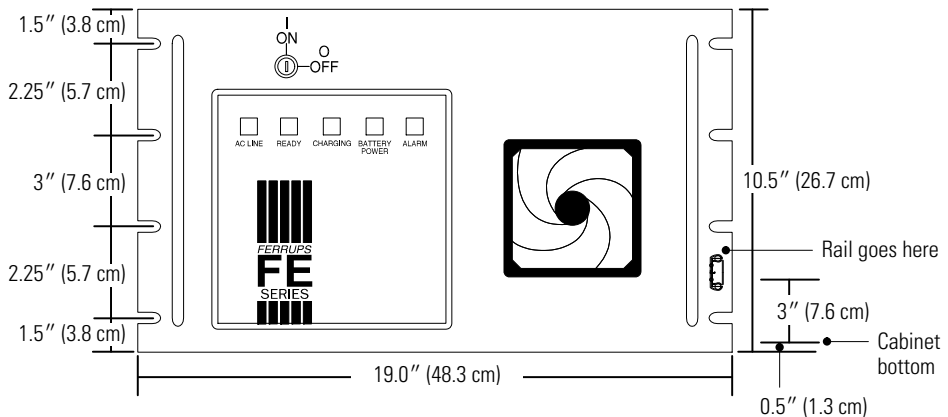
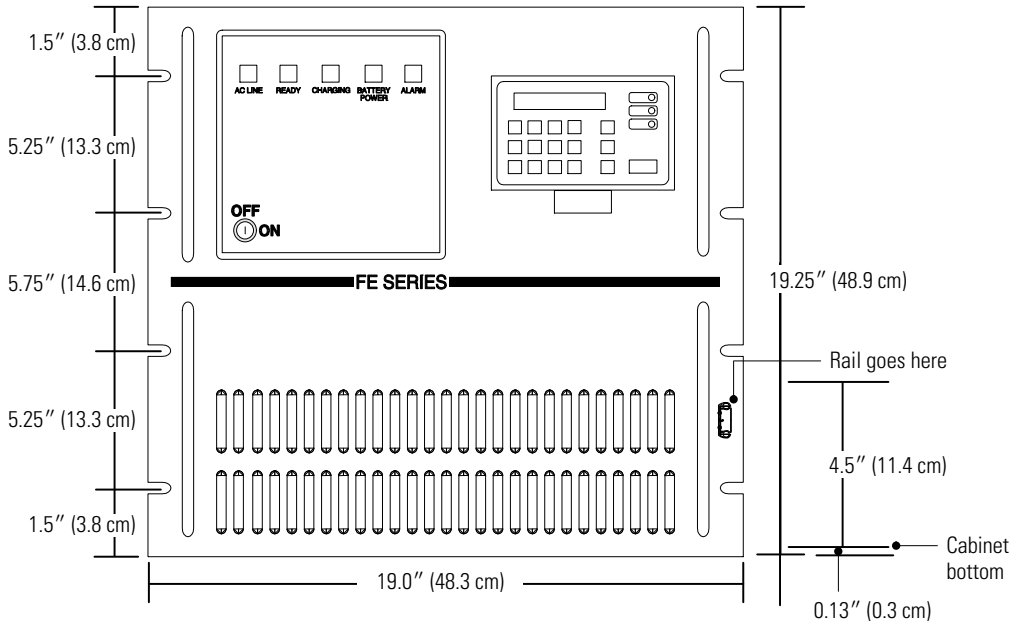

Figure 27. 850 VA-3.1 kVA UPS Front Panel Bolt Slot Measurements
Figure 28. 4.3/7 kVA UPS Front Panel Bolt Slot Measurements
- To ensure the front panel bolts align with the holes in the rack, use the slot measurements in Figure 27 or Figure 28 to position the outer rails before you attach them to the rack.